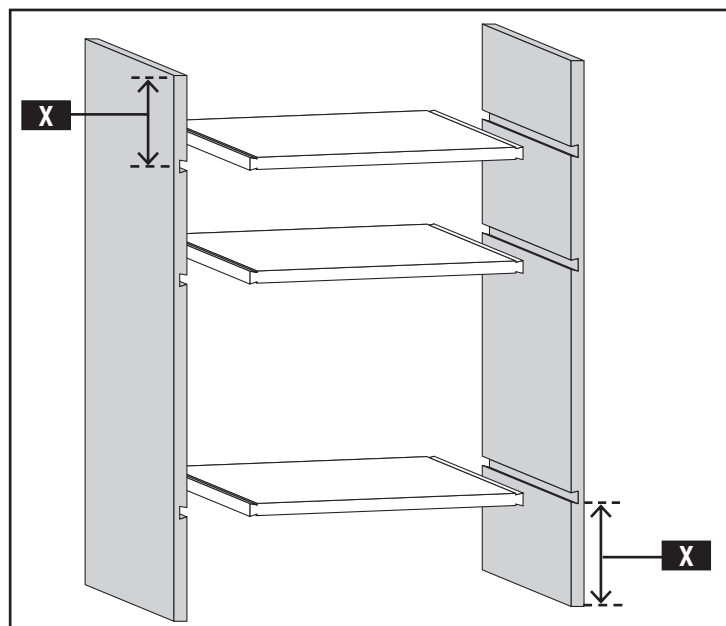

Fig. H5
**CAPACITY NOTE:** When making the dado cut, your boards need to be long enough to allow the workpiece to be clamped down. There must be at least 7" of material beyond the center of the dado, shown as "X" in Fig H5, to ensure good clamping. If you want the distance (X) to be smaller than 7" in your finished project, you can cut off the unwanted portion after the dado cut is made.